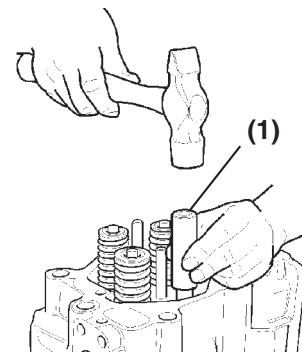

Figure 5-21
4. Carefully install new valve stem seal using an installer (OEM Part No. 99 323) (**Figure 5-21, (1)**) and a hammer. **WARNING! Avoid personal injury. ALWAYS wear safety glasses when servicing the engine.**